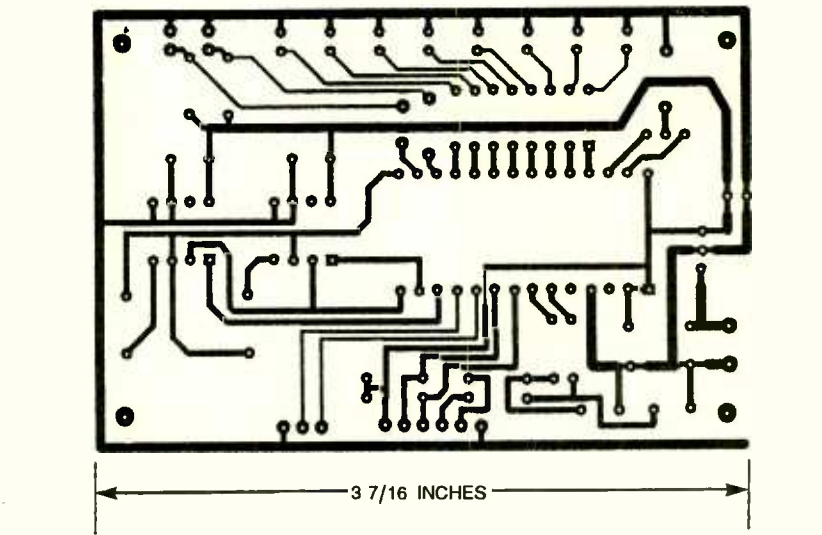

Fig. 2. The Motion Memory was assembled on a small printed-circuit board (shown here full-scale) measuring about 3 7/16 by 2 5/16 inches.
Fig. 2. A low-pass filter (like that shown in A) is designed to pass signals that are below a certain (cut-off) frequency, while rejecting those that are above that value. The gain-versus-frequency (B) and phase-versus-frequency (C) response curves show that.